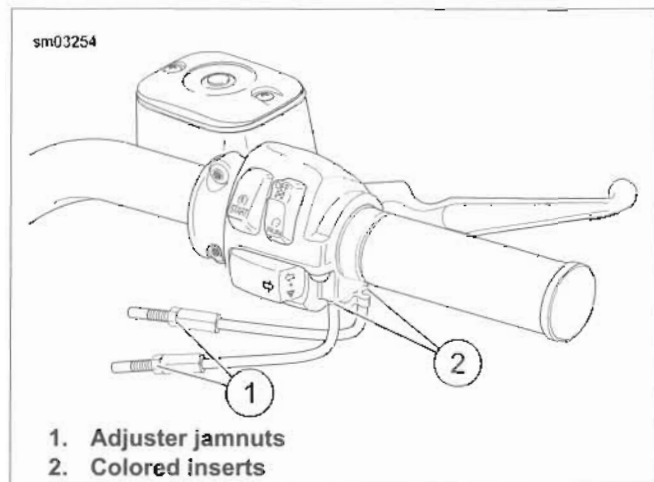

Figure 2-91. Handlebar Throttle Control
1. See Figure 2-91. Loosen cable adjuster jamnuts (1). Screw throttle cable adjuster until it is as short as possible. Remove the two screws that hold the handlebar housing together to separate the upper and lower housings.